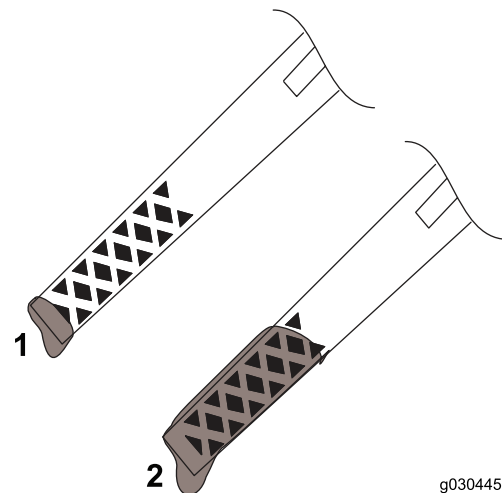

Figure 16
- If the oil level is below the Add mark on the dipstick (Figure 16), add oil. Refer to (page).